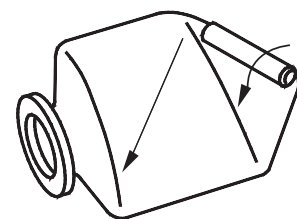

Figure 27 – Roll Diagonally Toward Neck
- b. To get tightest possible wrap, start on one side at top and TIGHTLY roll bladder diagonally to other side (see Figure 27). To force out as much air as possible, roll toward bladder neck opening.